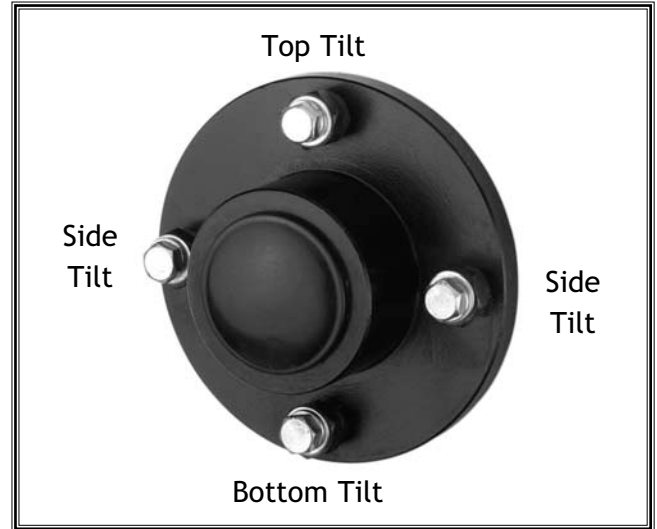

Figure 35. Lower wheel adjustment control.
6. If the wheels will go parallel but not coplanar, then move the lower wheel at the adjustment hub (**Figure 35**) as necessary.